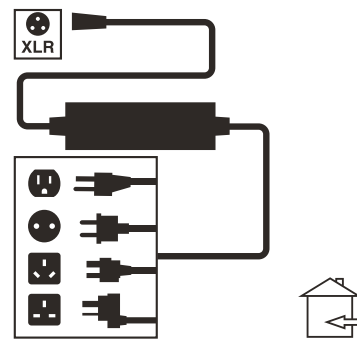

Figure 11. Battery Charger
3. Plug the off-board charger into the off-board charger/programming socket on the controller. **See figure 11.**